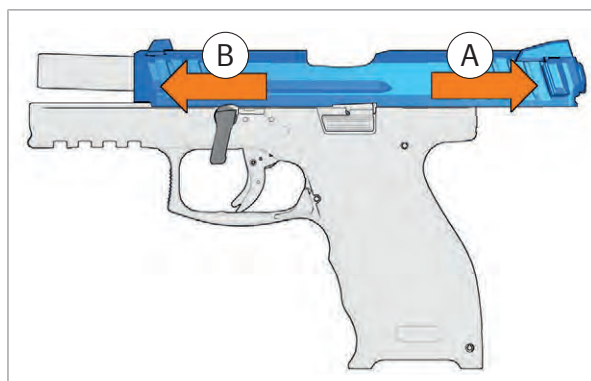

Fig. 49: Pushing slide from frame
4. Pull slide back and hold it (Fig. 49).
5. Move slide forwards slowly and push it from frame (Fig. 49).